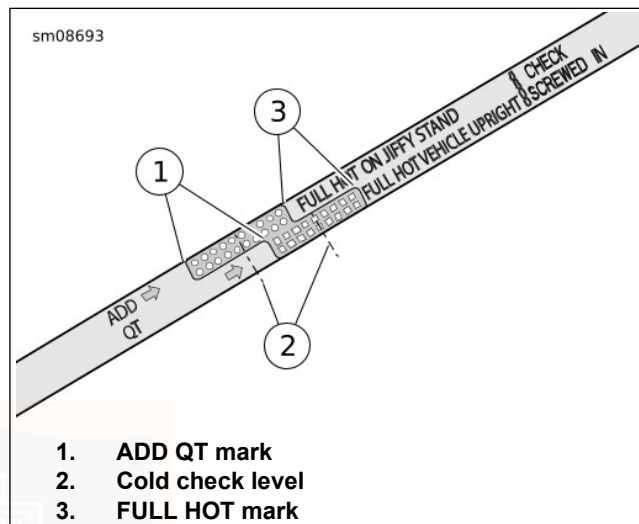

Figure 47. Engine Oil Dipstick
See Figure 47. When checking oil level, use the gauge marked FULL HOT VEHICLE UPRIGHT.
3. See Figure 47. Remove filler plug/dipstick. Using the gauge marked FULL HOT VEHICLE UPRIGHT on the dipstick, verify the oil level. The correct oil level should register midway (2) between the ADD QT and FULL HOT marks on the dipstick.
6. Check oil level. Add only enough to bring level midway between the ADD QT (1) and FULL HOT (3).
4. See Figure 47. Remove filler plug/dipstick. Using the gauge marked FULL HOT VEHICLE UPRIGHT on the dipstick, verify the oil level. The level should be between the ADD QT (1) and FULL HOT (3) marks. Add oil as necessary to bring the level to the FULL HOT mark on the dipstick. Do not overfill.